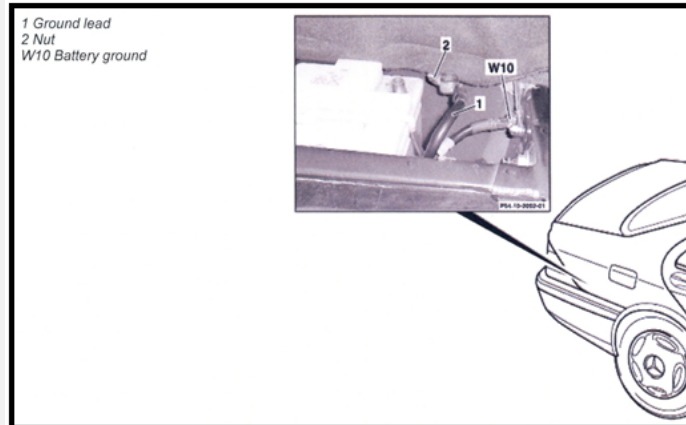

Figure 1.0
1.0 Disconnect battery (Ground lead). (figure 1.0)